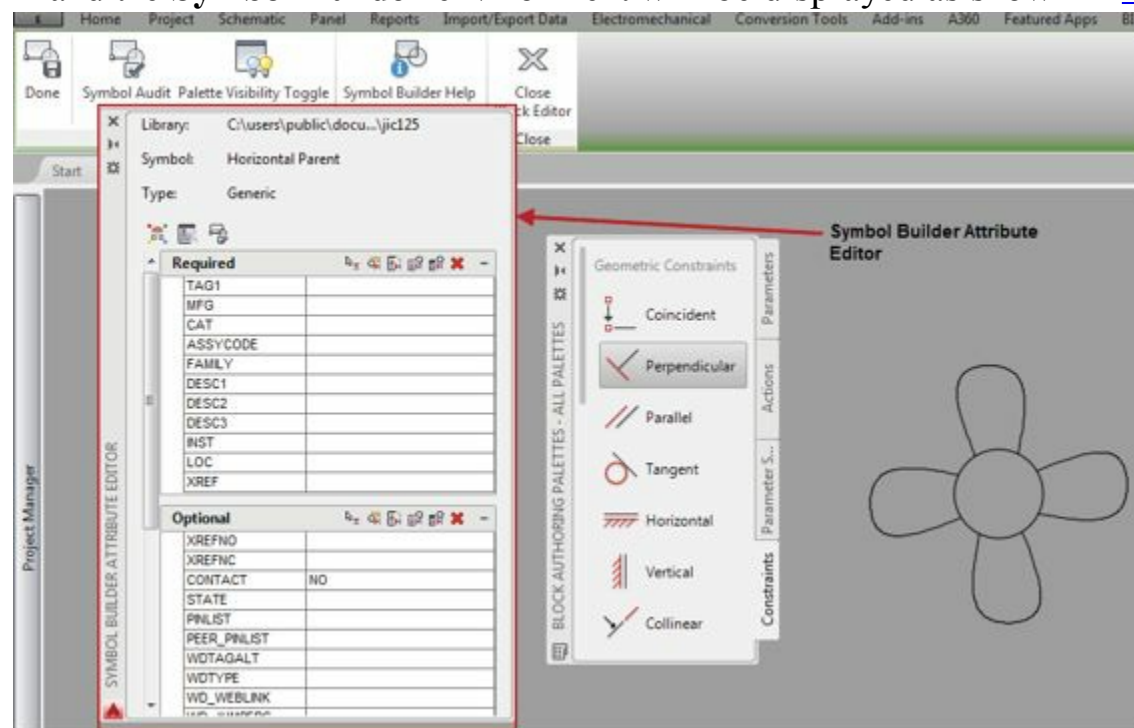

Figure-44. Symbol Builder environment
- Click on the **OK** button from the dialog box. The **Symbol Builder** contextual tab will be selected and the **Symbol Builder** environment will be displayed as shown in Figure-44.
- Specify the parameters like Tag, Manufacturer, Category, Assembly code etc. in the **Required** rollout of the **Symbol Builder Attribute Editor**; refer to Figure-44.